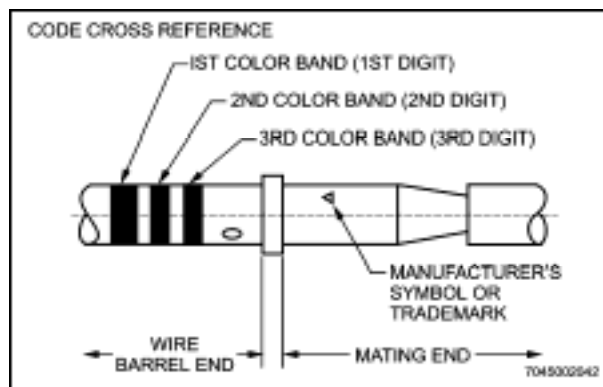

Figure 10-15 Contact Marking
27. Removable crimp-type contacts conforming to specification MIL-C-39029 are used with the connector types indicated in paragraph 5. The method of crimping wires to these contacts is essentially the same throughout the entire group of connectors. Standard crimping tools conforming to MIL-DTL-22520 are used to crimp the contacts. Contacts manufactured after April 1978 will be identified with BIN (basic identification on number) code colour bands (see Figure 10-15). Each digit of the BIN code will be designated on the contact by a colour band in accordance with the following: